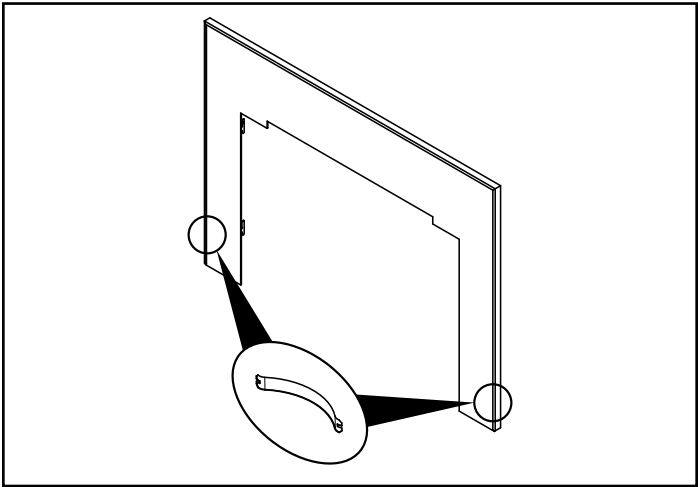

Figure 20.5
5. Install two steel springs on each side of the flat surround towards the bottom and the assembled trim kit (**Figure 20.5**).